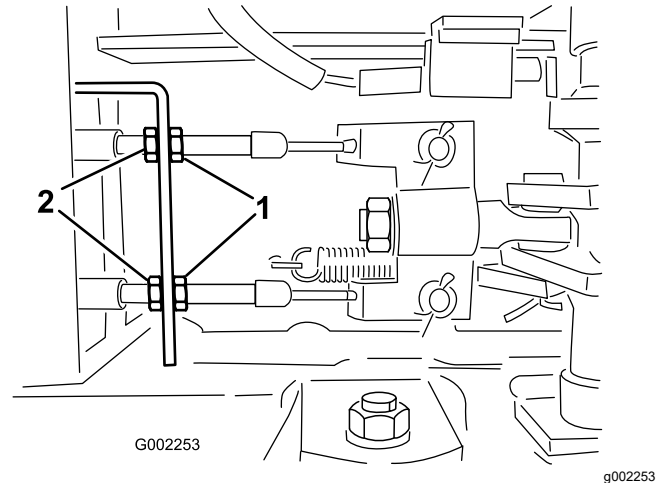

Figure 105
5. Loosen the front jam nuts on the brake cables under the front end of the sprayer (Figure 105).
6. Tighten the rear jam nuts equally until the brake pedal moves between 1 to 2 cm (1/2 to 1 inch) before you feel resistance (Figure 105).